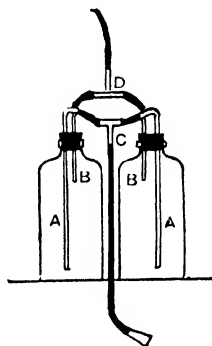

Fig. 542.—Apparatus for Detecting Leak in Speaking Tube.
**Finding Leak in Speaking Tube.**—The smoke method may be employed for finding a leak in a speaking tube. The best method of generating a large quantity of smoke is by bringing together the vapours of hydrochloric acid and ammonia. The apparatus shown in Fig. 542 will serve for the purpose. It consists of two bottles with sound corks, in each of which two holes are made with cork borers. Into one of the holes is fitted a bent glass tube A reaching to the bottom of the bottle; into the other hole a short bent glass tube B is fitted. The two longer tubes are connected by means of a rubber tube to a Y-shaped tube C, and to this is attached a third piece of rubber tube and a jet to blow through. The two shorter glass tubes are also connected to a Y-shaped tube D, and similarly a rubber tube and short glass tube